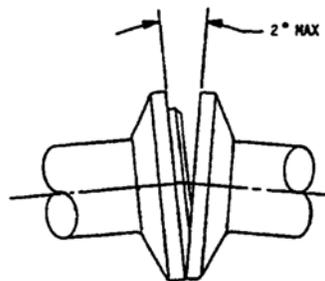

FIGURE 4 - INITIAL ANGULAR MISALIGNMENT /7/
- /7/ REMOVE PROTECTIVE CAP FROM FLANGE, INSTALL SEAL IN MALE FLANGE, AND BRING MATING FLANGE INTO POSITION. DO NOT INSTALL COUPLING OVER FLANGES, WHICH EXCEED THE ANGULAR MISALIGNMENT SHOWN IN FIGURE 4. IF FLANGES ARE MISALIGNED, DO NOT USE COUPLING TO ALIGN. CHECK SYSTEM AND FIND CAUSE. LOOSEN SUPPORT CLAMPS AS NECESSARY. UNHOOK LATCH ASSEMBLY FROM LUGS AND SLIP COUPLING OVER THE TUBING OR DUCTING ADJACENT TO THE FLANGE. MISALIGNMENT SHOWN IS INITIAL. FLANGE GAP MUST BE CLOSED WHEN INSTALLATION IS COMPLETE.